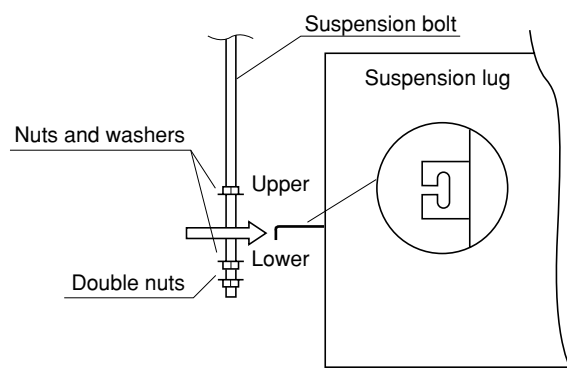

Fig. 3-40
- (2) Thread the 3 hexagonal nuts and 2 washers (field supply) onto each of the the 4 suspension bolts as shown in Fig. 3-40. Use 1 nut and 1 washer for the upper side, and 2 nuts and 1 washer for the lower side, so that the unit will not fall off the suspension lugs.